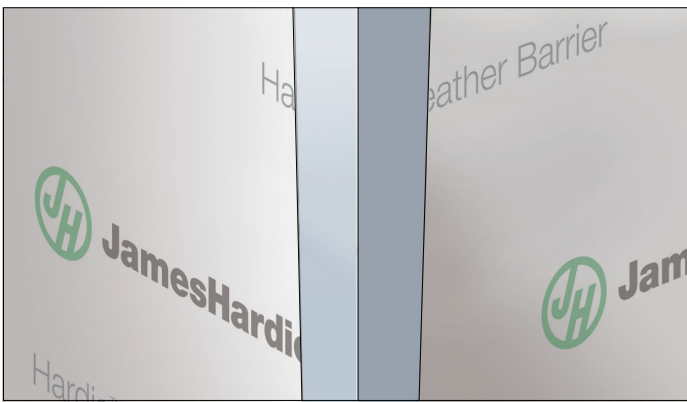

Figure 7a. Metal corner flashing applied to external corner
- As a best practice for water management, install a corner flashing extending 3" - 6" from each direction over a water resistive barrier (Fig. 7a)